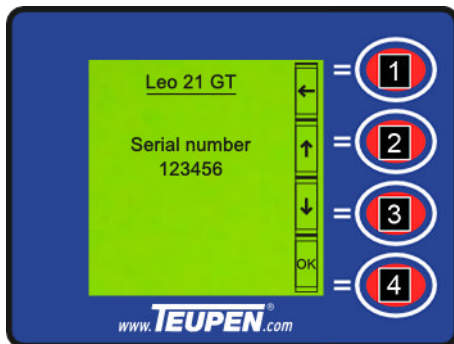

Fig. 64: Serial number
- Use the [function key] (Fig. 64/1) to jump back to the 'Machine data' menu.